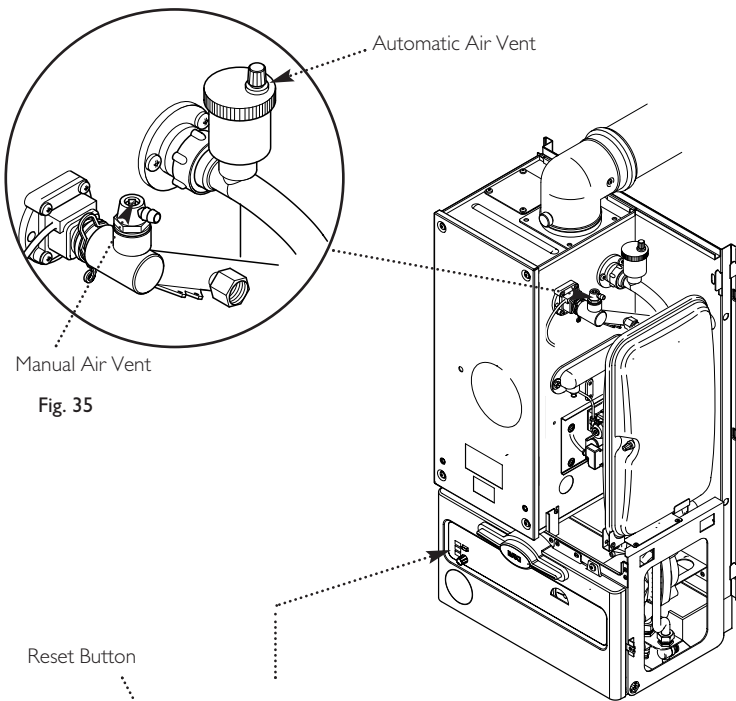
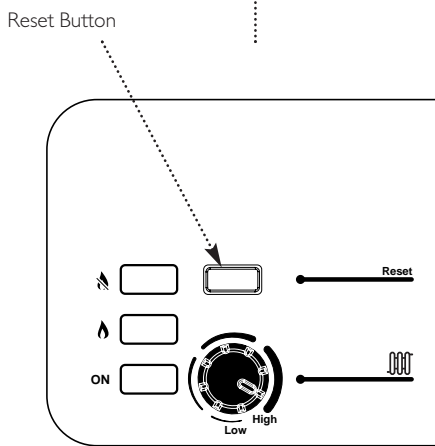

Fig. 35
Fig. 36
4. Open the manual and automatic air vents (Fig. 35). To help purge the primary circuit turn the pump on & off several times by using the Reset button (Fig. 36) (ensure all external controls are turned on and calling for heat).